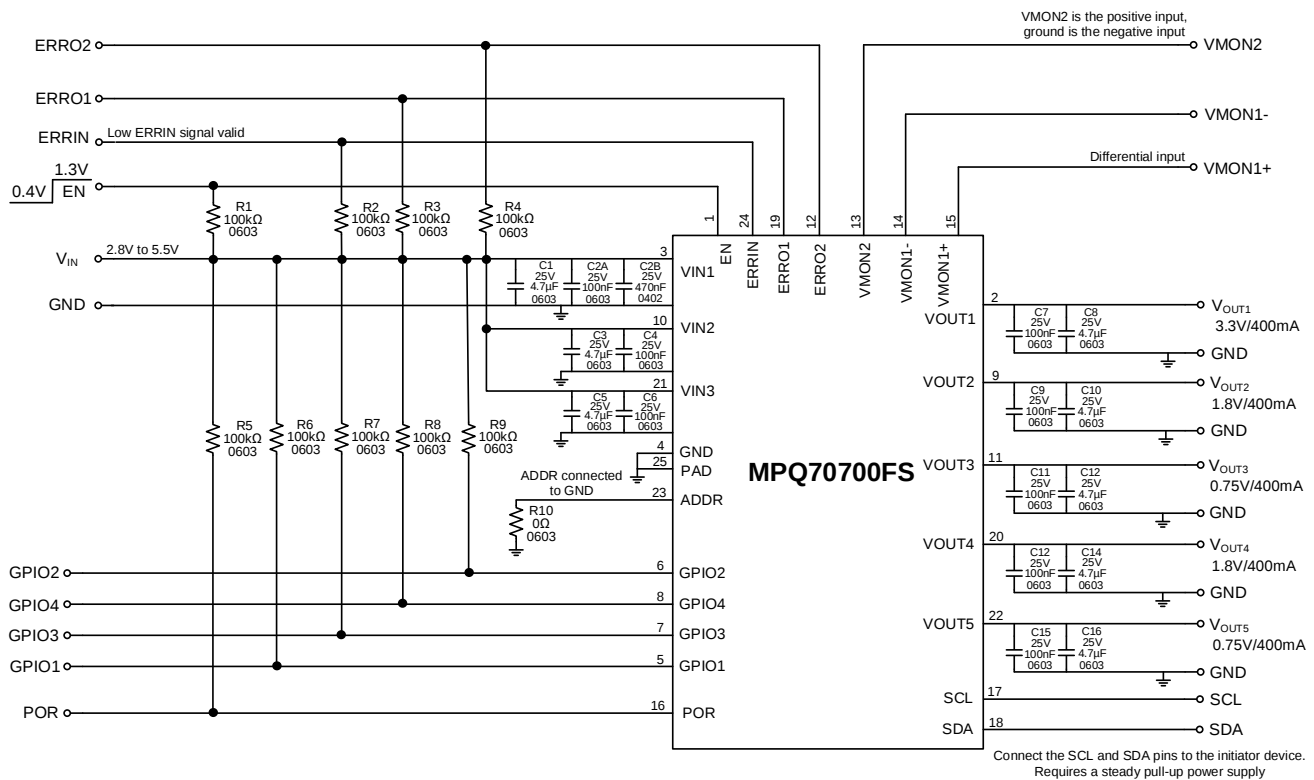

Figure 46: Typical Application Circuit (ADDR Connected to GND, Low Valid ERRIN Signal, and All GPIOs as Output Pins)
- 20) The recommended PCB layout is based on the typical application circuit (see Figure 46 on page 113).